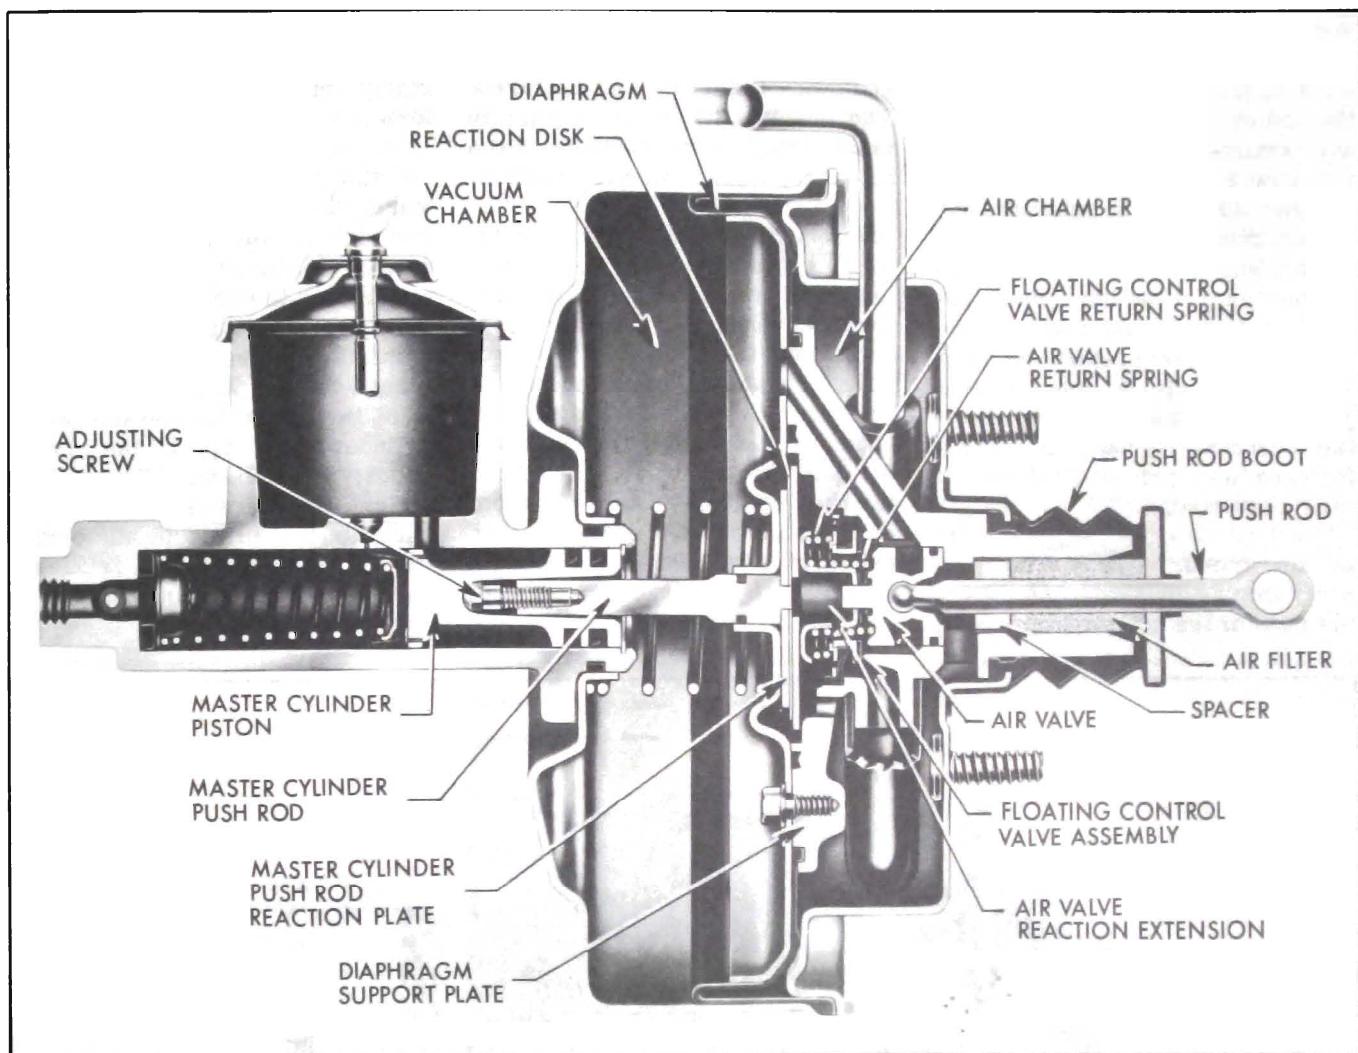

Figure 9-17—Power Brake Unit—Released Position
The power cylinder is the "air-suspended" type, meaning that atmospheric pressure is present on both side of the power piston in the unapplied stage. As shown in Figure 9-17, a front and rear housing interlock to form a large chamber in which the power piston and related parts operate. The section to the rear of the piston is called the Air chamber
(1) **Released Position**, See Figure 9-17. The air valve return spring holds the air valve, push rod, and brake pedal rearward so that the air valve is clear of the floating control valve. Although vacuum is present at the floating control valve through the flexible hose, the control valve return spring holds the rubber face of the valve against its annular seat in the
now open to atmospheric pressure, the piston return spring forces the power piston and related parts rearward to the unapplied position (Figure 9-17).
NOTE: Refer to Figures 9-17 thru 9-20 for identification of parts not shown in figures next to overhaul steps.